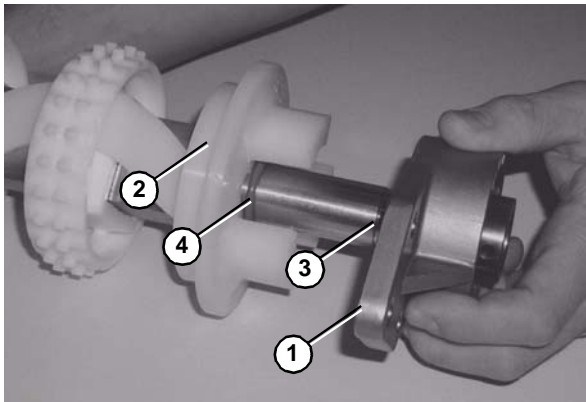

Figure 61
9. Slide the 3 hole flange with bearing (Figure 61, item 1), spacer (Figure 61, item 3), O-Ring (Figure 61, item 4), and flanged puck (Figure 61, item 2) off the drive spindle.